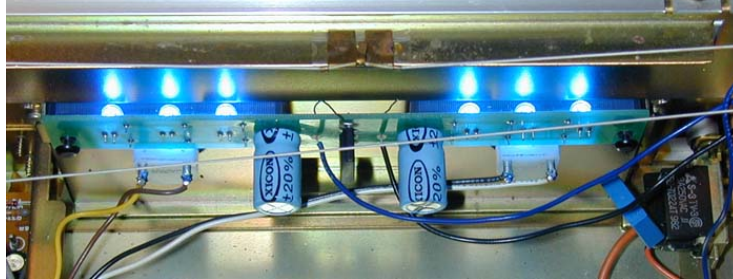

Figure 7 Installed Light Board Assembly
10. Carefully align the holes in the new LED Light board with the metal bracket holes in the chassis with the LED's facing down toward the top of each meter and push one plastic rivet through the LED board and into the bracket. Once both rivets are installed, push the center plunger of each rivet in to secure the LED Light Board. Your light board, once installed, will look like the illustration in Figure 7 below. Make any minor adjustments to the LED orientation necessary to ensure that they point down correctly into the top of the meter lenses.